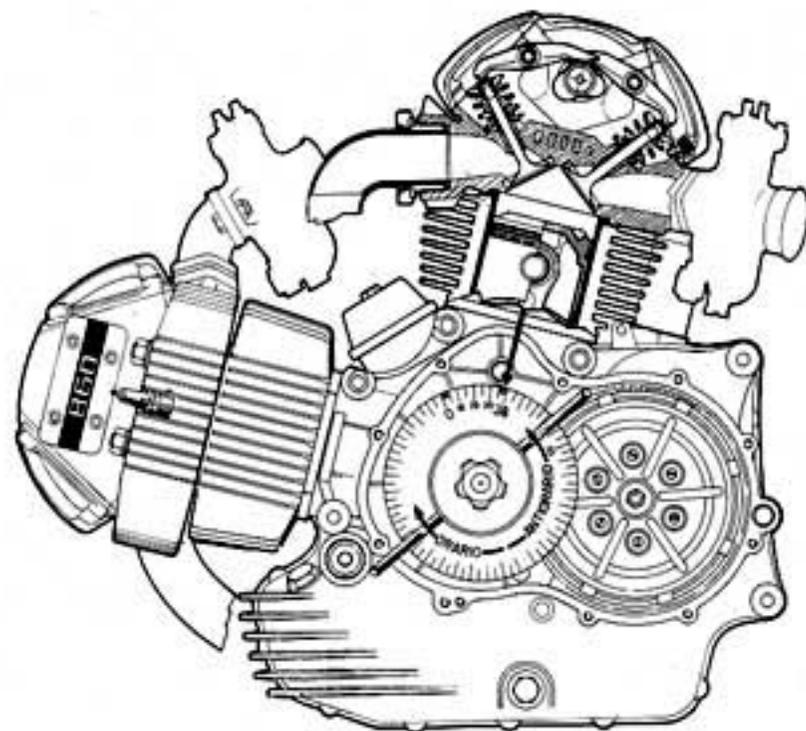

Fig. 14
- 5- Rotate the engine slowly in the direction of its movement stopping it at 38° of advance (reading it on the wheel) (see Fig. 14).